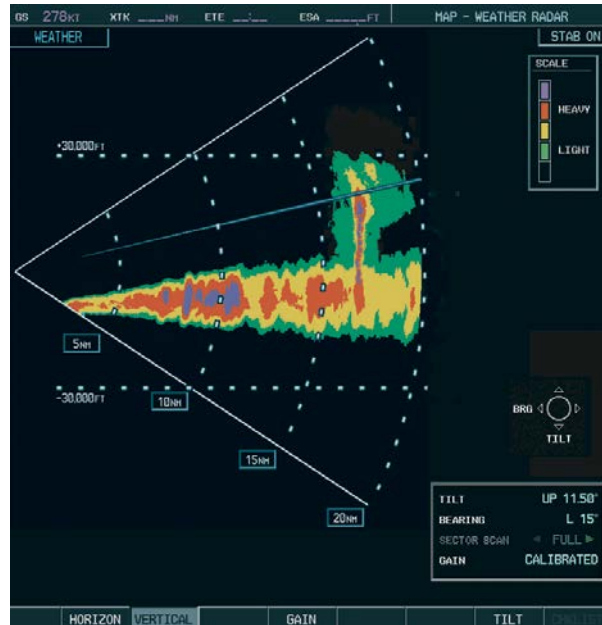

Figure 6-109 Vertical Scan Display
- 4) Select the **VERTICAL** Softkey. A vertical scan of the selected area is now displayed (Figure 6-109).